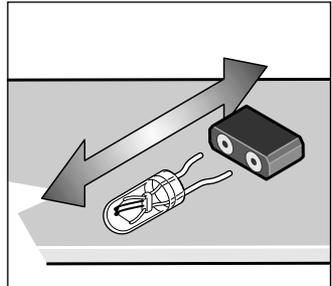

Figure 6. Lamp replacement
4. Gently pull the expired lamp straight out of the socket, then replace it with Lionel part no. 630-9134-300. Make sure that the replacement lamp is positioned like the original. Refer to Figure 6.